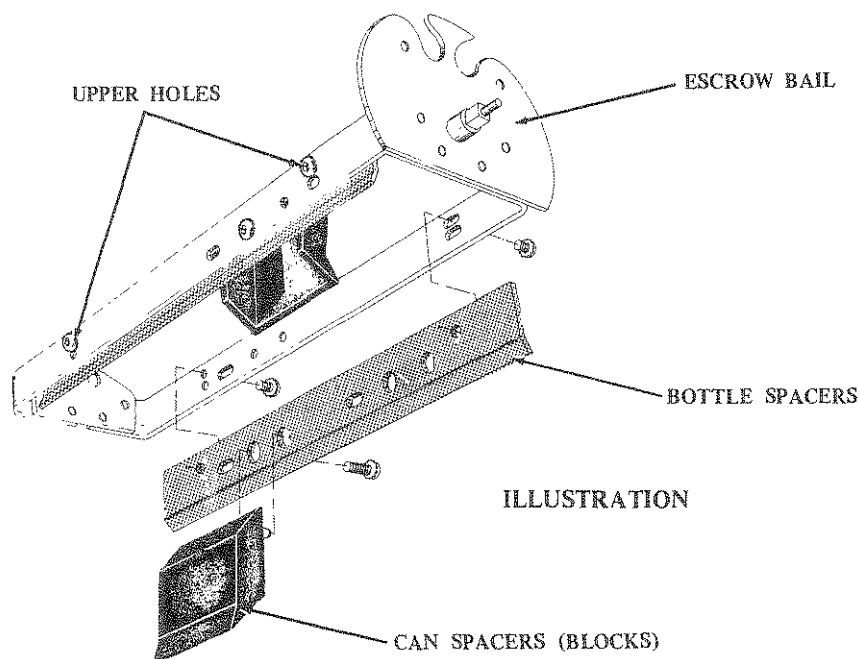

Figure 22
6. Remove bail spacer bars from escrow bail; turn end for end (180 degrees) to reinstall. Using same screws just removed, attach bail spacer to bail through upper holes in bail. (See Figure 22). (Escrow bail may be rotated by operating sold out lever and actuating motor carrier switch.)
7. Add can spacer (blocks) to escrow bails, left front and right rear (See Figure 22). Use longer screws, provided with conversion parts.